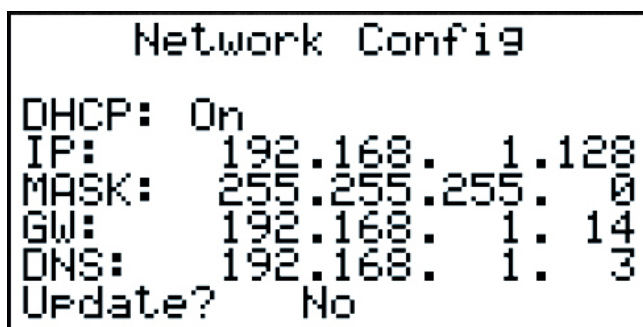

Figure 23
2.3.3.2 Network Config (Figures 23, 24 and 25)
Selecting NETWORK CONFIG from the Commissioning Menu displays the NETWORK CONFIG screen shown in Figure 23. From this screen, the unit IP address can be set to either DHCP On (default) or to a static IP address. The settings here should be coordinated with the building controls contractor.